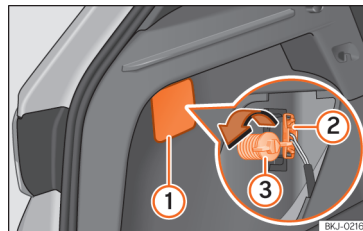
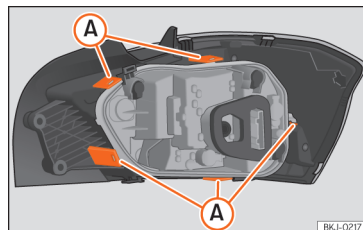

Fig. 58 Luggage compartment: access to the bolt securing the tail light unit.
Fig. 59 Retaining tabs on reverse side of tail light.
- Remove the lid, levering the flat side of a screwdriver into the recess » Fig. 58 ①.
- Remove the bulb connector ②.
- Unscrew the light securing bolt ③ by hand or using a screwdriver.
- Remove the bulb holder unlocking the retaining tabs » Fig. 59 A).